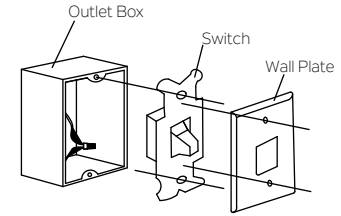

Fig. 22
Step 1. Remove the existing wall plate and the old switch from the wall outlet box. Wire nut the BLACK leads (hot) together and push back inside the outlet box. (Fig. 22) or select the desired location with a new wall outlet box.